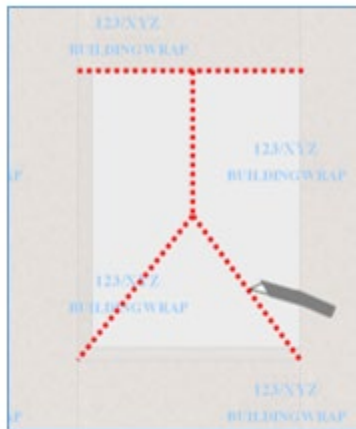

Fig 7a
1. Score with modified “I” pattern or upside-down “Y”. See Fig 7a